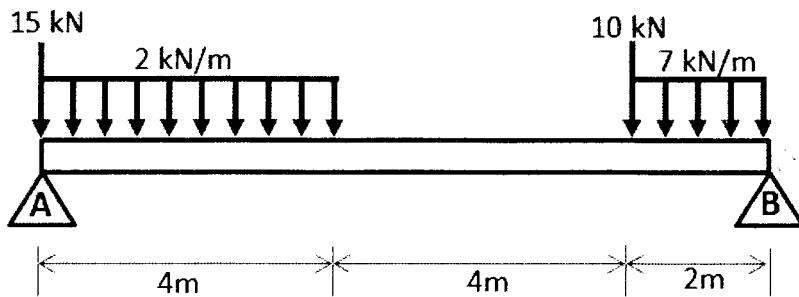

Figure Q2 / Rajah S2
A simply supported beam carrying a few loads as shown on **Figure Q2** below.
- a) Calculate the reaction force for beam in **Figure Q2** and sketch the free body diagram.